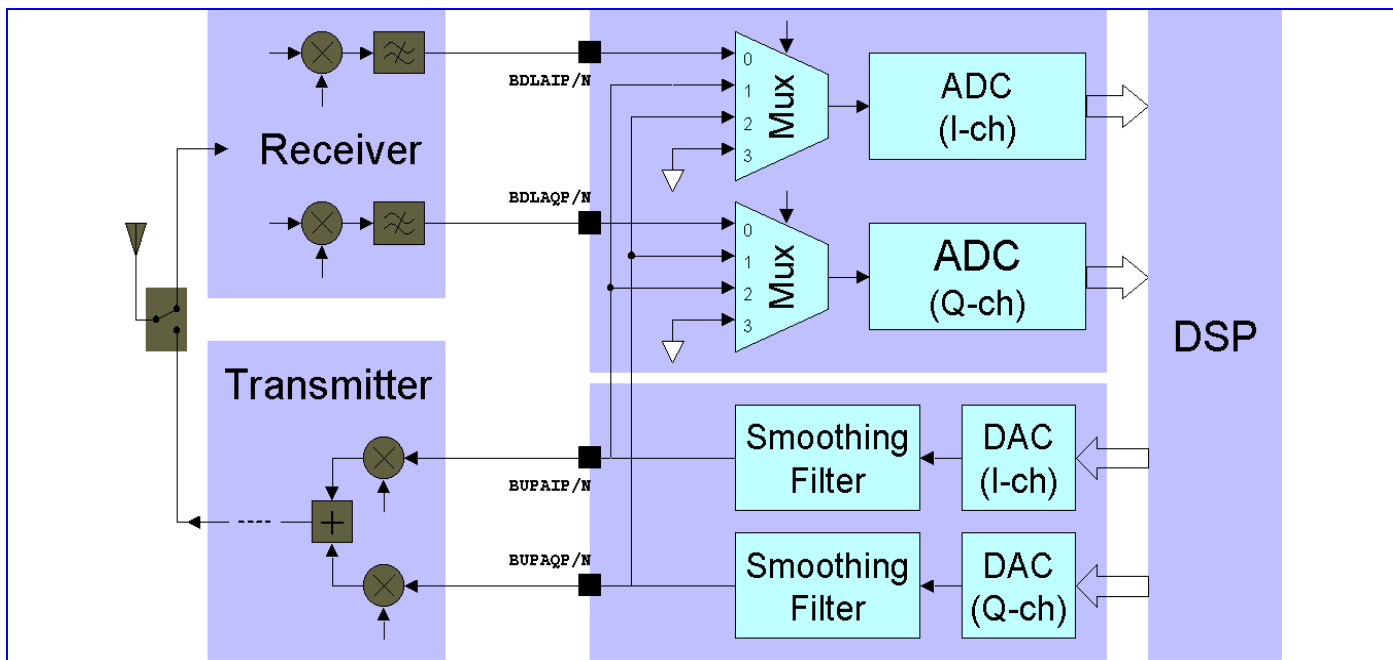

Figure 81 Base-band A/D and D/A Offset and Gain Calibration
The base-band downlink receiver (RX), together with the base-band uplink transmitter (TX) introduced in the next section, provides necessary analog hardware for DSP algorithm to correct the mismatch and offset error. The connection for measurement of both RX/TX mismatch and gain error is shown in **Figure 81**, and the corresponding calibration procedure is described below.